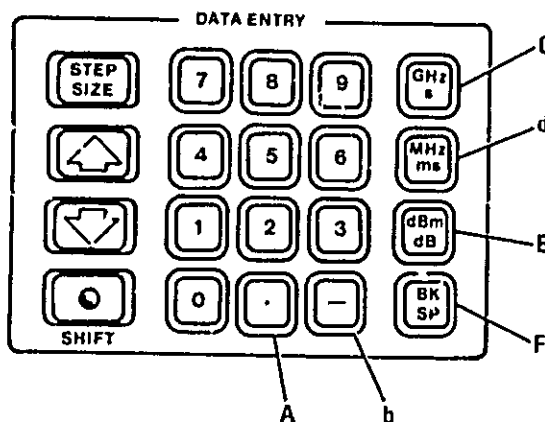

Figure 5-7. Front Panel Hexadecimal Entry Keys
7. Make DATA ENTRY of 2C80. (Refer to HEX entry key diagram in Figure 5-7 for location of "C".)